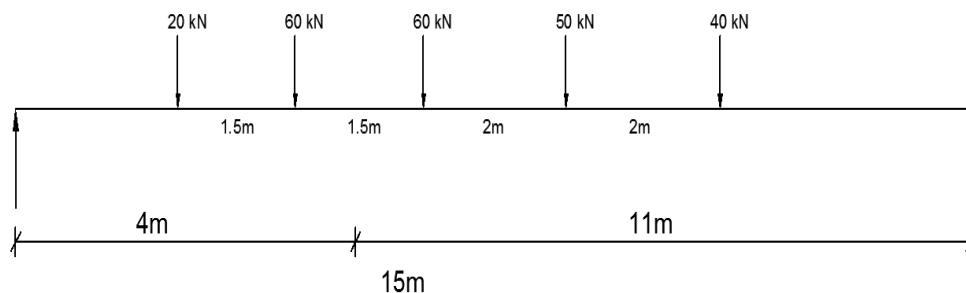

Figure 3.
6. A series of wheel loads crosses over a girder of span 15m from left to right with 40kN load leading as shown in **figure 3**. Determine 14M